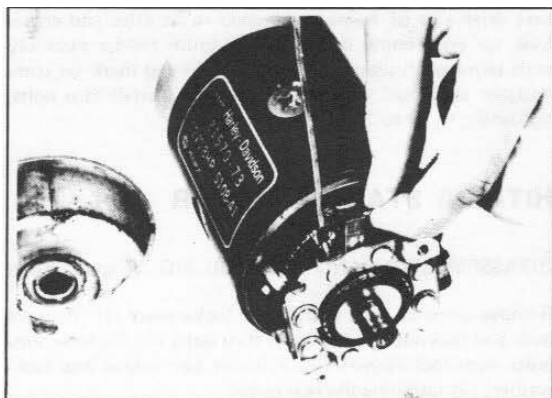
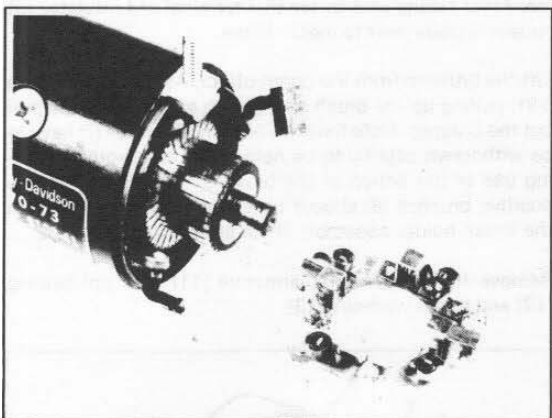

Figure 5-31. Removing Brushes — Hitachi Motor
Figure 5-32. Hitachi Brushes and Brush Holder
Lift the brushes from the commutator. As shown in Figure 5-31, pulling up the brush spring with a steel wire and pull out the brushes. Note that two negative brushes (7) have to be withdrawn slightly to be held in the brush-guide, making use of the action of the brush spring. The other two positive brushes (8) should be completely removed from the brush holder assembly (9) as shown in Figure 5-32.